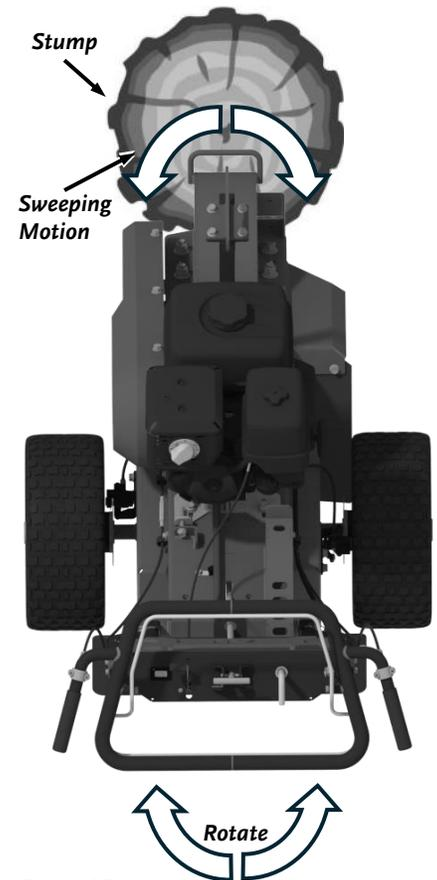

Figure 15
7. Lower the Cutter Head approximately 1/2" to 1" into the front-top corner of the stump and slowly swing the Cutter Head left and right, controlling each sweep with both hands fixed on the machine (**Figure 15**).